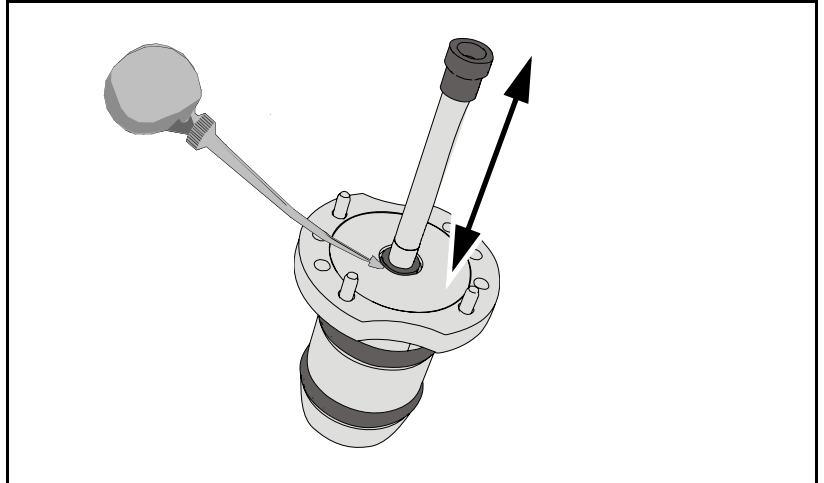

Figure 18-5. Spring loaded tools lubrication.
- Lubricate metal colored spring-loaded tools with a drop of Shell Tellus oil, see Figure 18-5.